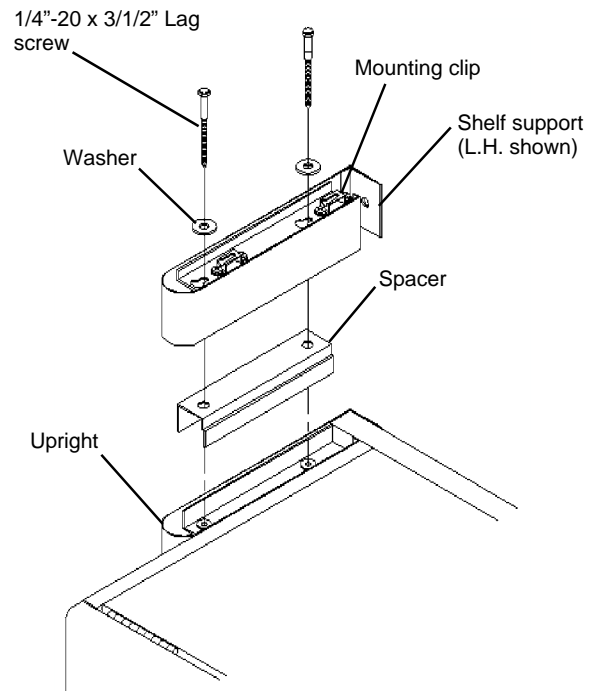

Figure 2
3. Insert a **Spacer** into the top of each upright with the offset bends toward the inside. See **Figure 2**.
Assemble the **Left** and **Right** hand **Shelf Supports** onto the top of each upright by placing them over the Spacers and securing them with the 1/4"-20 x 3.50" Lag screws and washers provided. **DO NOT** tighten at this time. **IMPORTANT:** Be sure to install the Shelf Supports with the mounting clips facing up. See **Figure 2**. See note below before tightening the screws.